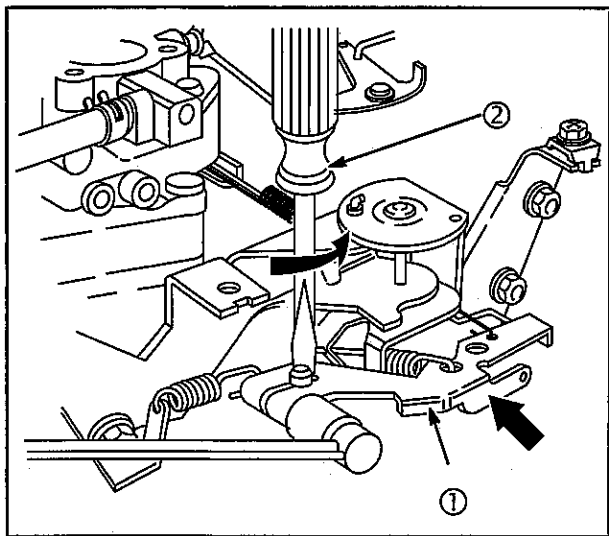

Fig. 30
1. Loosen governor lever nut. Push on governor lever (1) until throttle is wide open, **Fig. 30**.